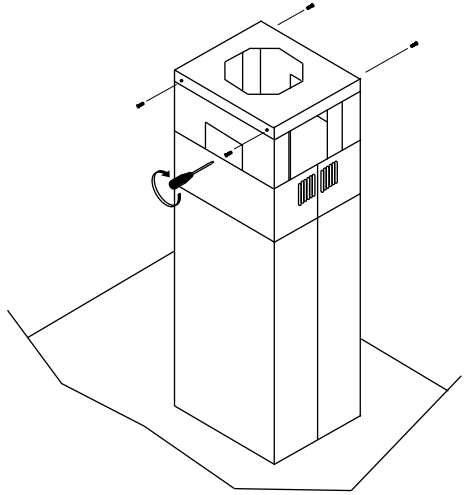

Fig 10
7. Fasten the chimney sleeve to the ceiling bracket using the screws provided (Fig 10).